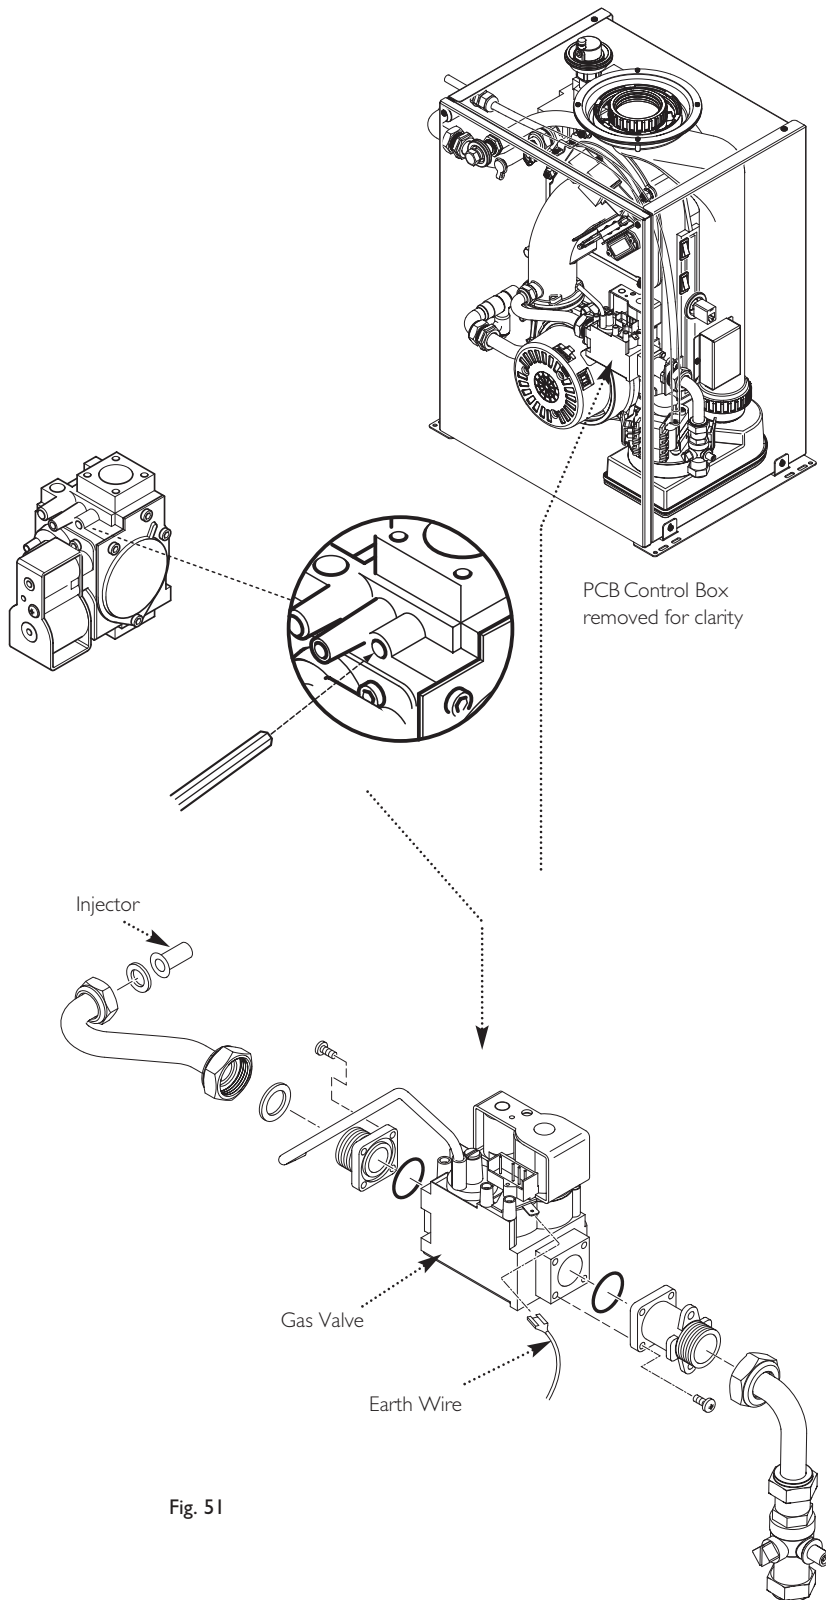

Fig. 51
### 10.8 Gas Valve (Fig. 51)
**NOTE:** To assist the boiler to light prior to final setting, use a suitable hexagon key to wind out the Gas/Air adjustment screw until it is flush with the valve body, then turn the screw 4 full turns clockwise (Fig. 51). If the boiler will not light, or the correct CO2 cannot be achieved contact the 'heateam' technical helpline.